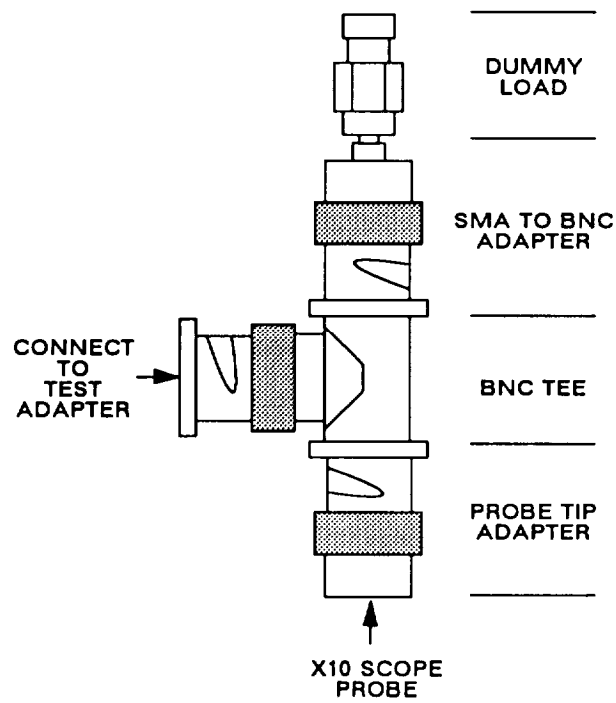

Figure 6-41. Rf Section Test Setup Diagram
n. Connect scope channel 1 to J16 using setup shown in figure 6-41.	n. Scope channel 1 displays 160 to 240 mV P-P signal. If not, go to chart 25.
q. Connect scope probe to J4 using setup shown in figure 6-41.	q. Scope channel 1 displays 80 to 120 mV P-P signal. If not, go to chart 26.
r. Connect scope probe to J5 using setup shown in figure 6-41.	r. Scope channel 1 displays 80 to 120 mV P-P signal. If not, go to chart 27.